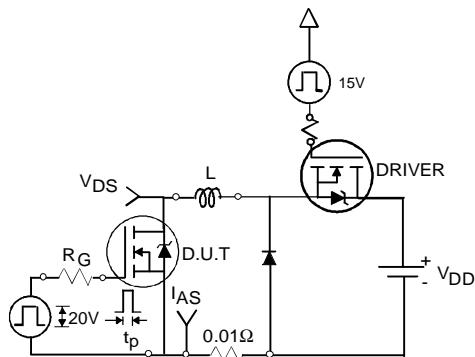

Fig 12a. Unclamped Inductive Test Circuit
3. Equation below based on circuit and waveforms shown in Figures 12a, 12b.
- ③ $I_{SD} \leq 104\text{A}$, $\text{di/dt} \leq 100\text{A}/\mu\text{s}$, $V_{DD} \leq V_{(BR)DSS}$, $T_J \leq 175^\circ\text{C}$.
- ④ Pulse width $\leq 400\mu\text{s}$; duty cycle $\leq 2\%$.
- ⑤ C_{oss} eff. is a fixed capacitance that gives the same charging time as C_{oss} while V_{DS} is rising from 0 to 80% V_{DSS} .
- ⑥ Calculated continuous current based on maximum allowable junction temperature. Package limitation current is 75A.
- ⑦ Limited by T_{Jmax} , see Fig.12a, 12b, 15, 16 for typical repetitive avalanche performance.
- ⑧ This is applied to D²Pak, when mounted on 1" square PCB (FR-4 or G-10 Material). For recommended footprint and soldering techniques refer to application note #AN-994.